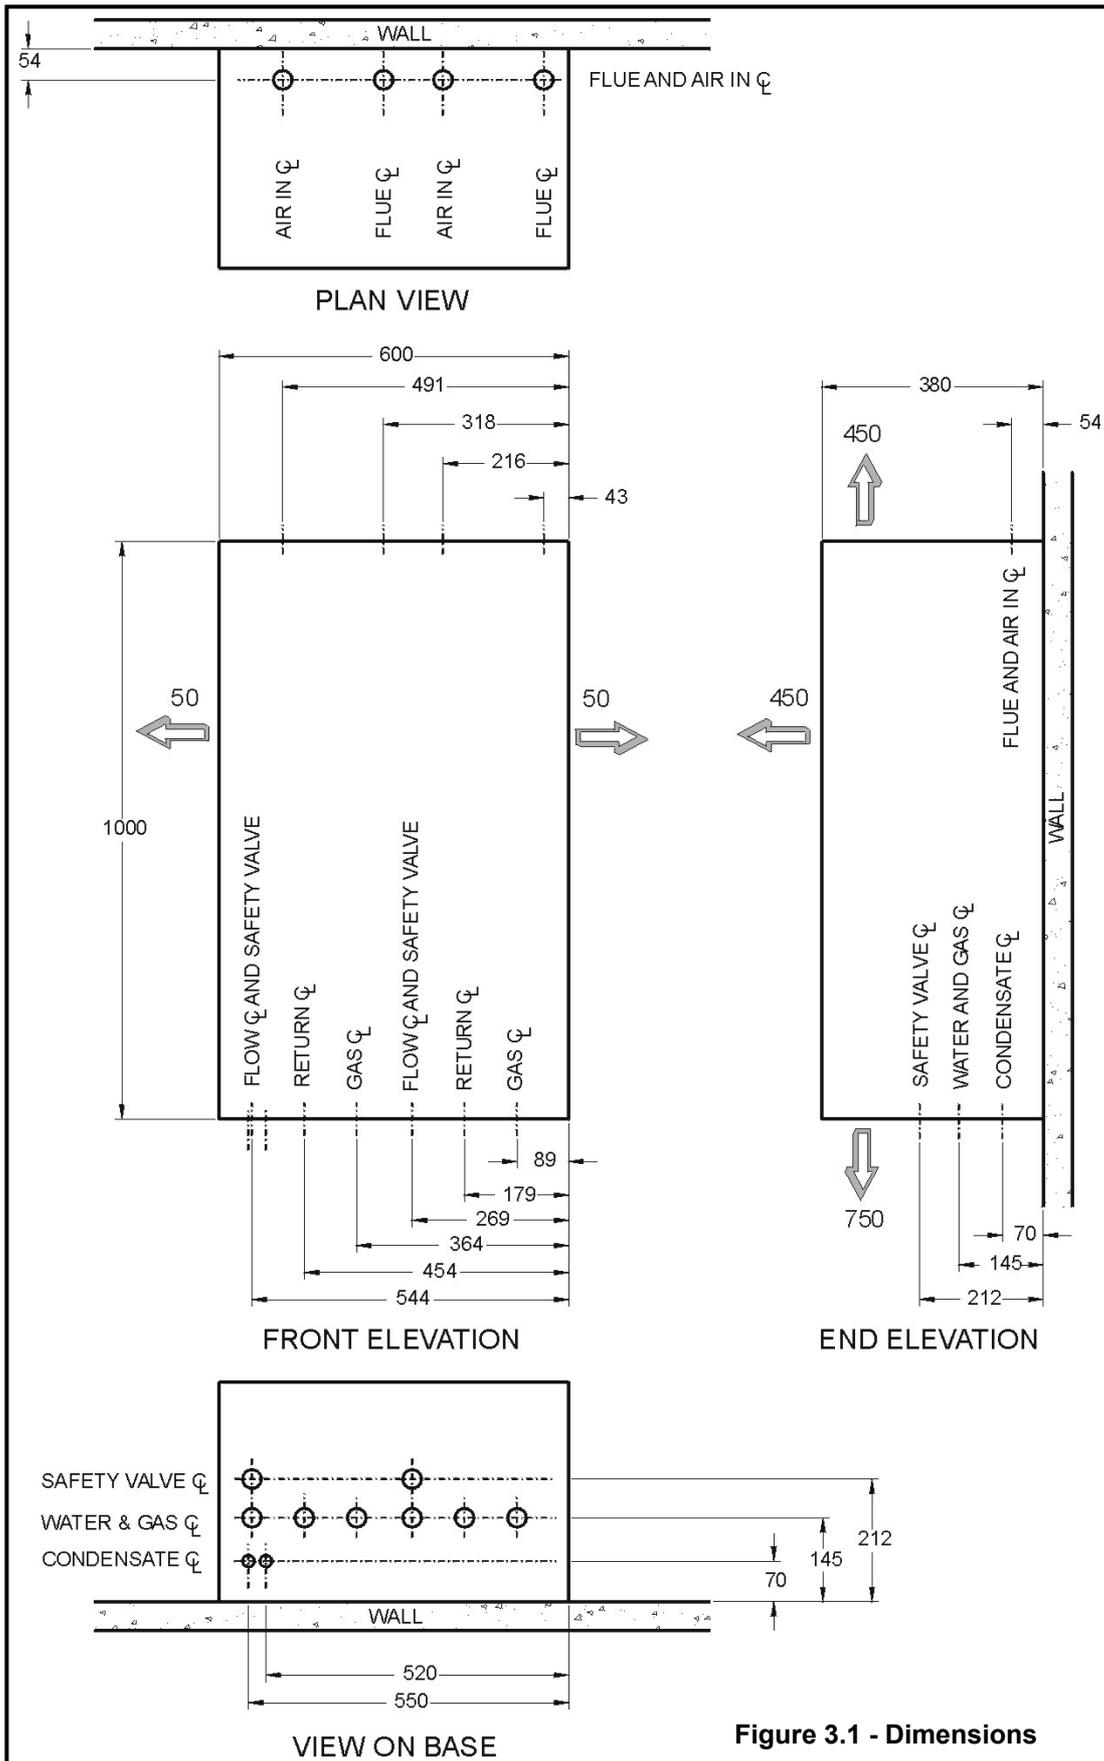

Figure 3.1 - Dimensions
3.1 The Milborne boiler range has been designed to utilise minimum wall space, therefore it is important that the plantroom has sufficient ceiling height to allow for installation and connection to the flue system allowing for sufficient access at sides and below boiler for pipework connections. See Figure 3.1